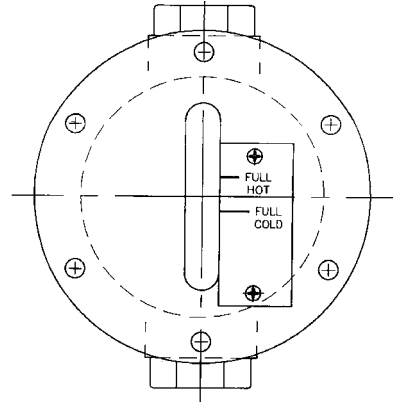

Figure 23 Sight Glass Assembly
4. Remove the plug from the filling port of the pump and pour the fluid in up to the FULL COLD level on the sight glass as shown in Figure 23. The fluid can also be poured in from the pump inlet or foreline.